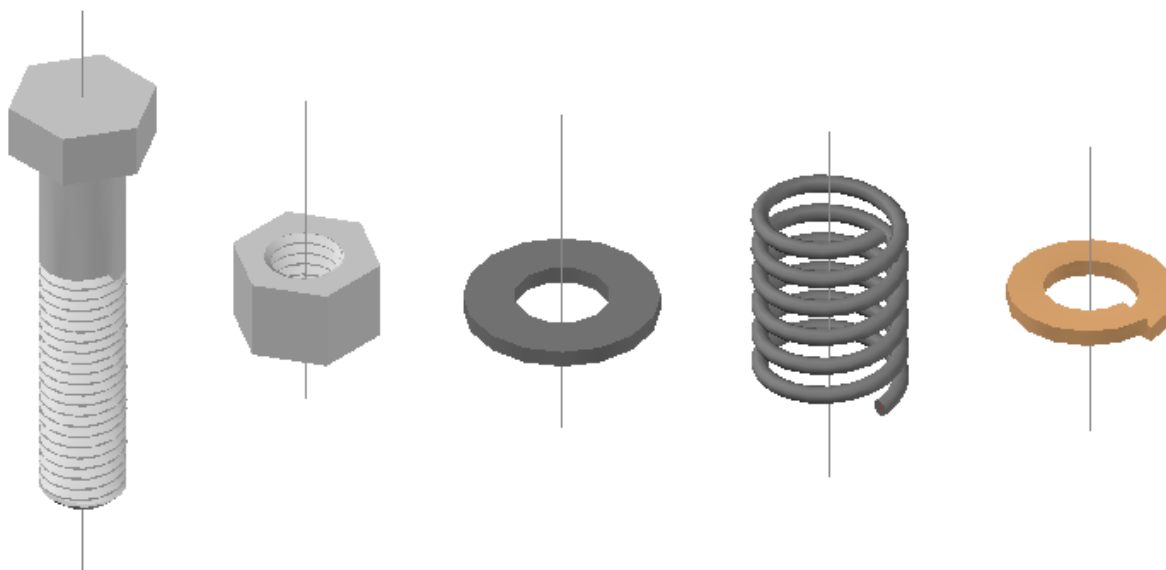

Figure Step 1A
Step 1 Complete the following steps to draw the individual solid models and assemble them. They can be drawn anywhere in model space. (Figure Step 1A and 1B)